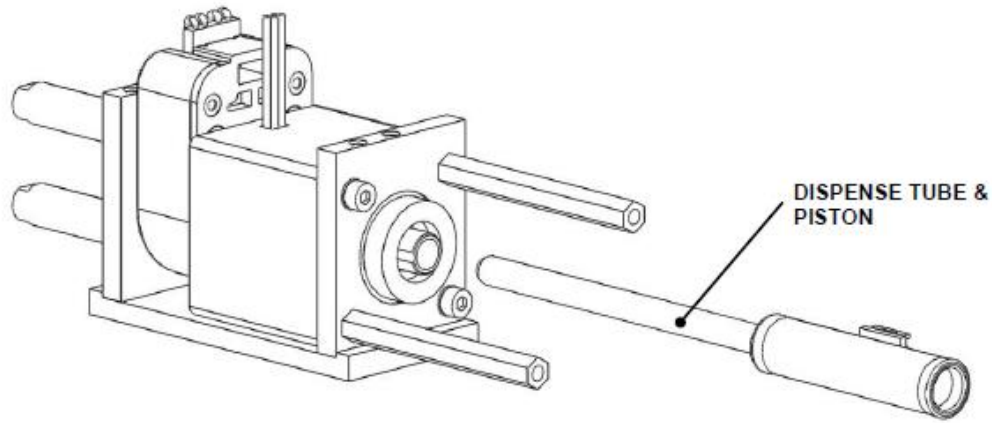

Figure U-18: Removing the Dispense Tube on the Dispense Piston from the Barrel Center
4. Remove the Dispense Tube that is on the Dispense Piston from the Barrel Center (Figure U-18).